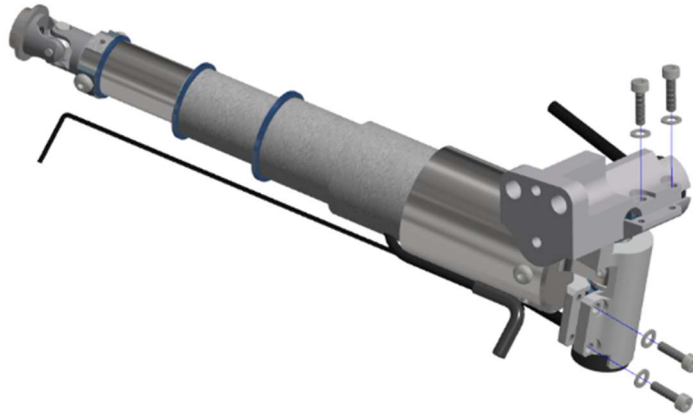

Figure 5-24. Remove the two M2 X 0.4 X 8 LG. SHCS from the potentiometer shafts
- 5.2.19 Remove the M2 X 0.4 X 8 LG. SHCS and M2 Split Lock Washer SS from the IR-TRACC Base (474-3754) and the IR-TRACC Arm Mounting Bracket (474-3755 and 474-3756) per assembly (Figure 5-24).